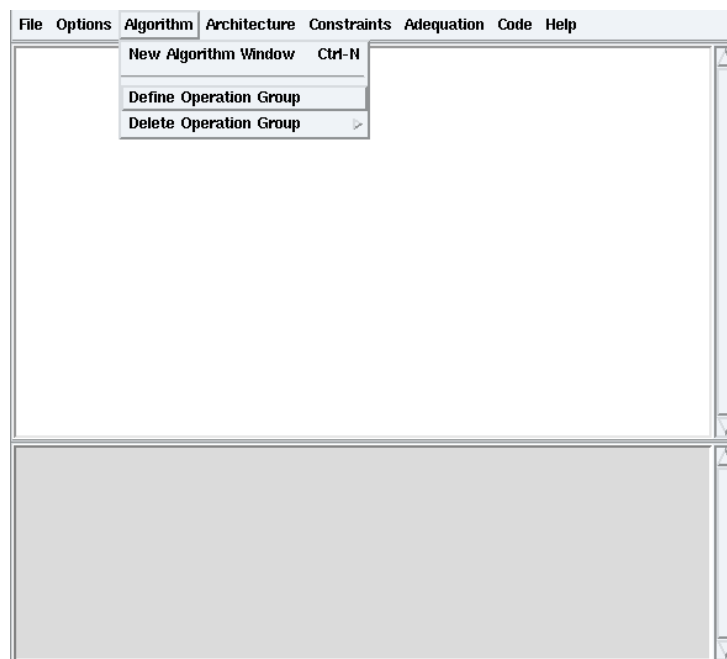

Figure 1.22: Define Operation Group
- **Algorithm / Define Operation Group** (cf. figure 1.22) → dialog window: og1 og2 og3,